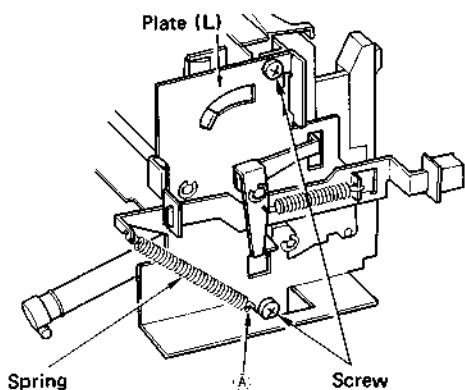

Fig. 9
- 4) Disconnect the spring from point A shown in Fig. 9.
6) Undo 2 screws shown in Fig. 9 and turn the lever toward the arrow, and the plate (L) for the maintenance of the mechanism base can then be taken out.